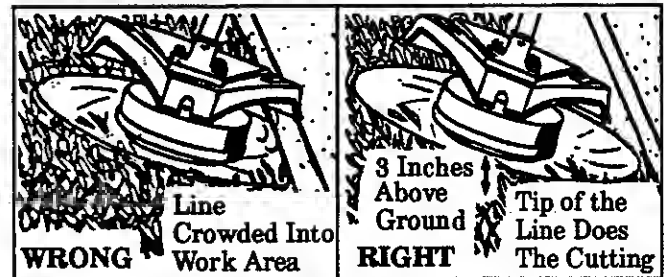

Figure 17
- The tip of the line does the cutting. You will achieve the best performance and minimum line wear by not crowding the line into the cutting area. The right and wrong way are shown in Figure 17.
1. **TRIMMING** - Figure 17 . Hold the bottom of the trimmer head about 3 inches above the ground and at an angle. Allow only the tip of the line to make contact. Do not force the trimmer line into the work area.